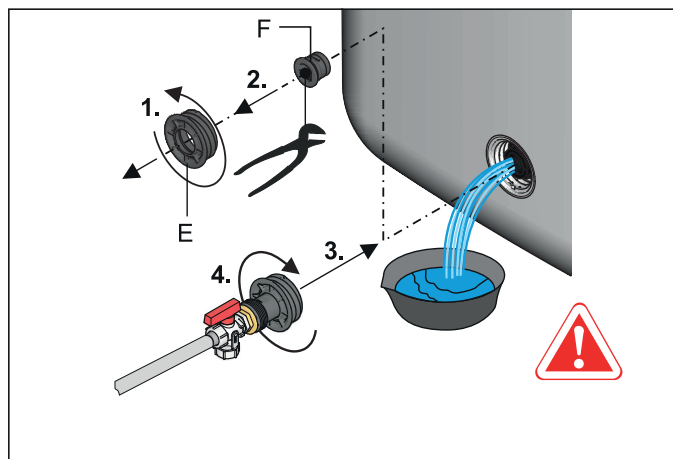

Fig. 5-4 Screwing the KFE filling connection into the filling and draining connection
- 5 Unscrew the threaded piece on the filling and draining connection (fig. 5-4, item E), remove the sealing plug (fig. 5-4, item F) and **immediately screw in the pre-installed threaded insert with KFE filling connection** into the filling and draining connection (fig. 5-4) again.